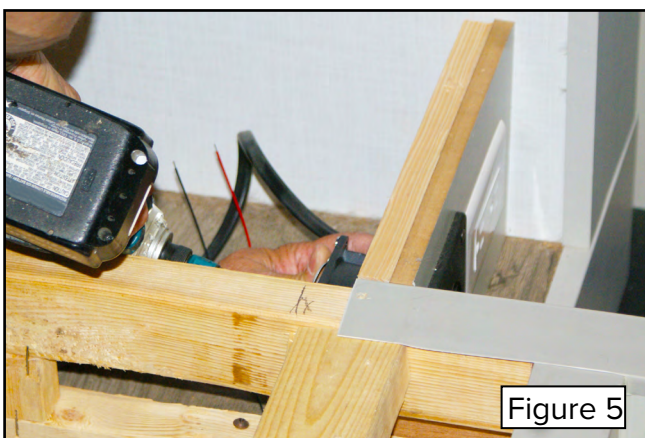

Figure 5
5. Repeat the procedure for the other side of the bed base, taking care to install the fan in the opposite orientation for air flow (Figure 5).